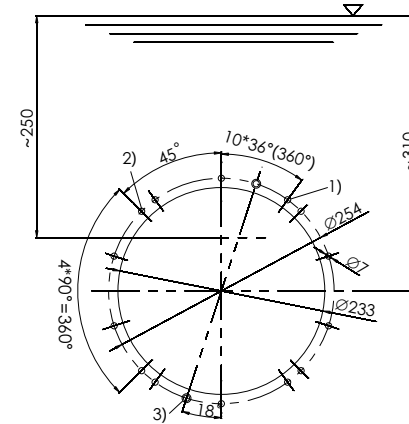
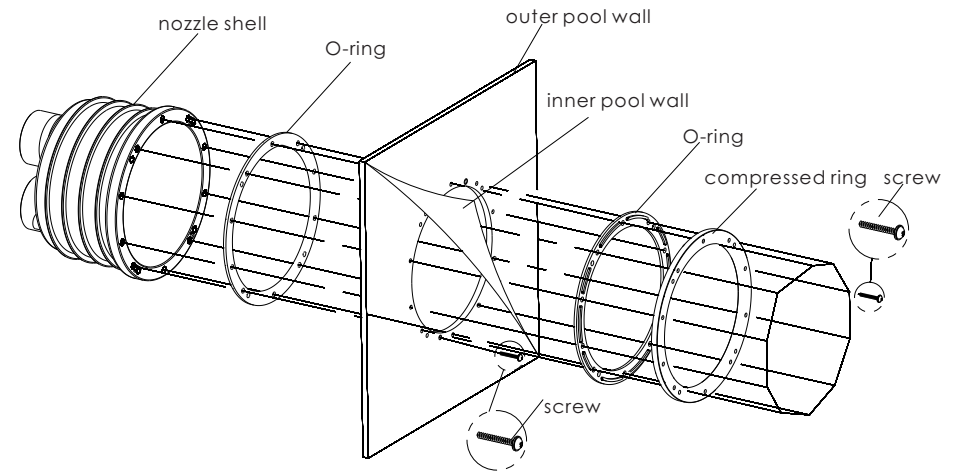

Figure 5
Figure 6
- a) For vinyl pool, according to the 16 holes on the counter current jet shell, first drill holes on the structural wall accordingly. (Figure 5)
- b) Install the plastic ring and the outer shell with 2 M6*20 screws (hole 3 of Figure 5), and then install the plastic ring and ring for installing on the fiber pool using 10 M6*45 screws .(Figure6)